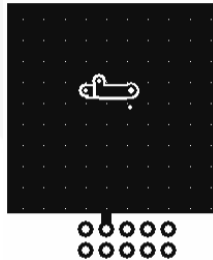
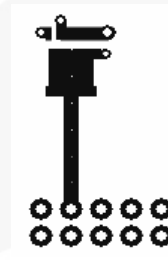

Figure 4. 1 Square Inch of 2-ounce copper
Figure 5. Minimum Pads of 2-ounce Copper
$T_{\text{A}} = 25^\circ\text{C}$ ⁽²⁾ (see Figure 4)	2.3
- The device power dissipation and thermal resistance (R_{θ}) are characterized with device mounted on the following FR4 printed circuit boards, as shown in Figure 4 and Figure 5